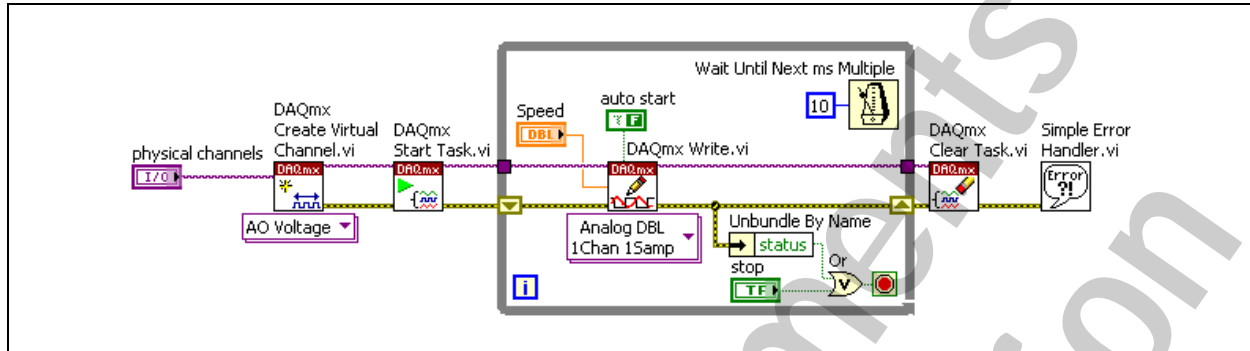

Figure 4-1. Variable Servo Fan VI Block Diagram
3. Create the block diagram to perform a software-timed analog generation, as shown in Figure 4-1, using the following items: